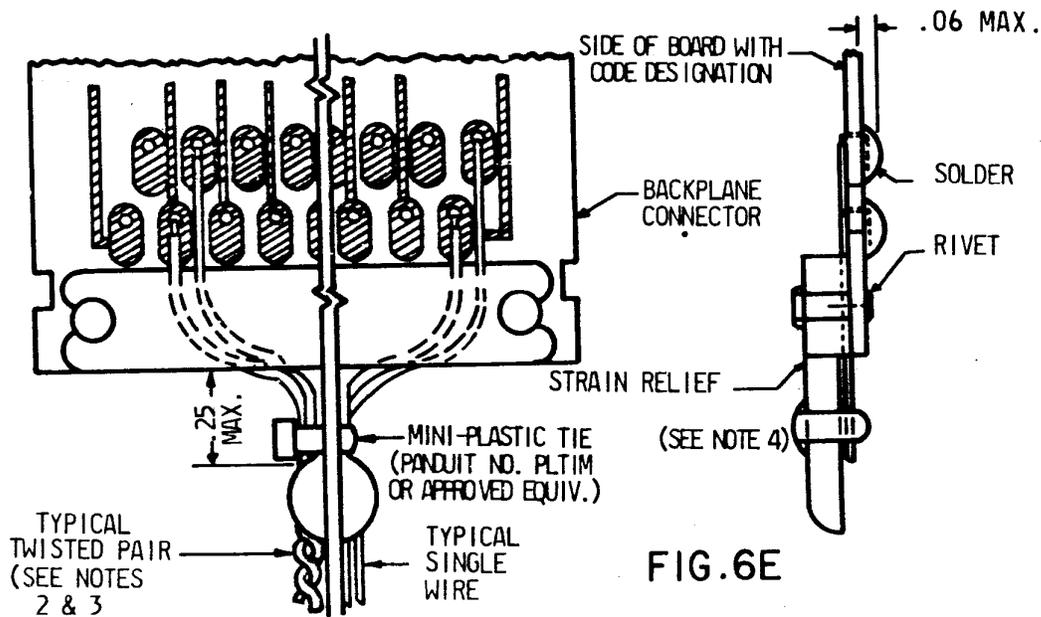

FIG. 6E
- 6.31 DISCRETE CABLES (LOOSE WIRES, NO SHEATH) SHALL BE TERMINATED IN ACCORDANCE WITH THE EXAMPLE OF FIG. 6E. USE PANDUIT OR EQUIV. MINI PLASTIC TIES AND APPLY WITH INST. TOOL ADJUSTED TO MEDIUM TENSION SETTING.
6.51 UNLESS OTHERWISE SPECIFIED FOR OTHER TYPES OF CABLES, THE WIRES SHALL BE TERMINATED IN ACCORDANCE WITH FIG. 6E.